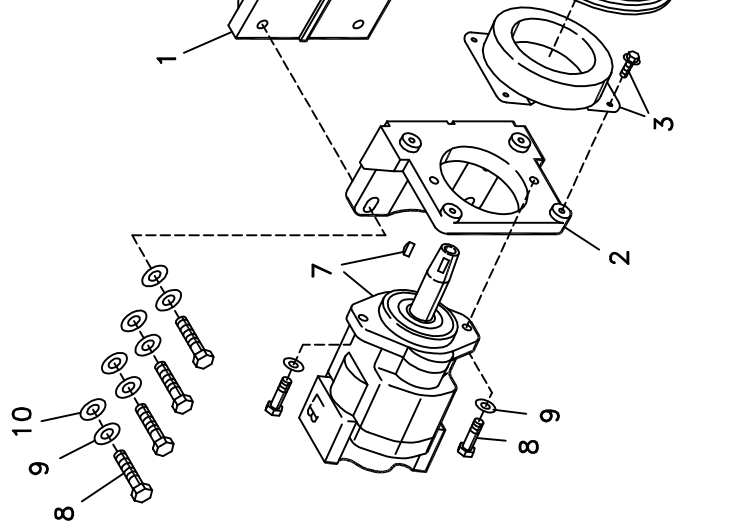

FIG. 3
2. Drain the coolant from the radiator. Remove the lower hose where it is connected to the radiator. Cut the straight section of the hose off at where the hose begins to bend (See Fig. 3). Reconnect the hose and clamp it. This is for clearance to get the hose away from the clutch pulley and belt.
3. Refer to Fig. 3 for the following: The transmission cooling lines will be in the way of the clutch pulley and need to be relocated. Cut and remove the two transmission lines at the places shown. Follow the one line to the oil cooler behind the front bumper. Cut this line at the cooler. Replace this line with the 45" hose (20). Replace the other hose with the 26" hose (21).